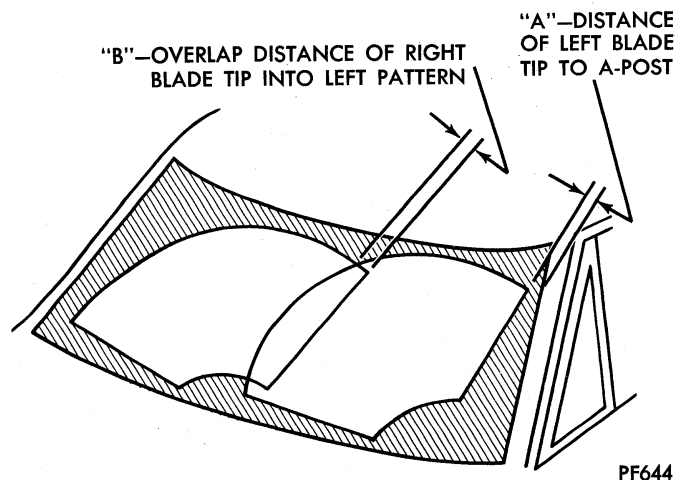

Fig. 13—Windshield Wiper Arm Adjustment
Non-Concealed Wiper Systems (Fig. 13)
(1) With the motor in the park position, mount the arms on the pivot shafts, choosing a serration engagement that locates the blades against the blade stops.
(2) Operate the wipers on low speed and dry glass with the engine off. The wipe pattern must comply with the maximum A-distance and the minimum B-distance shown in the chart and (Fig. 13.)
(3) Park the wipers. The arms and blades must be forward of an imaginary surface which is tangent to the hood edge and normal to the glass (i.e. concealed by the hood).
(4) If these requirements for "A" and "B" dimensions and concealment are not met, remove the arm(s) and repeat with a corrected setting.